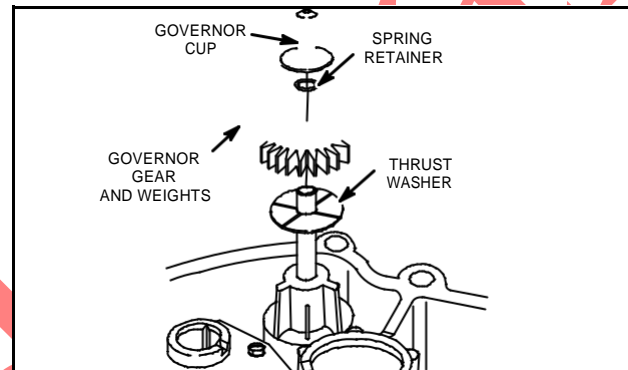

Fig. 23 – Install Governor Gear
1. Install thrust washer, governor gear, spring retainer and governor cup, Fig. 23.